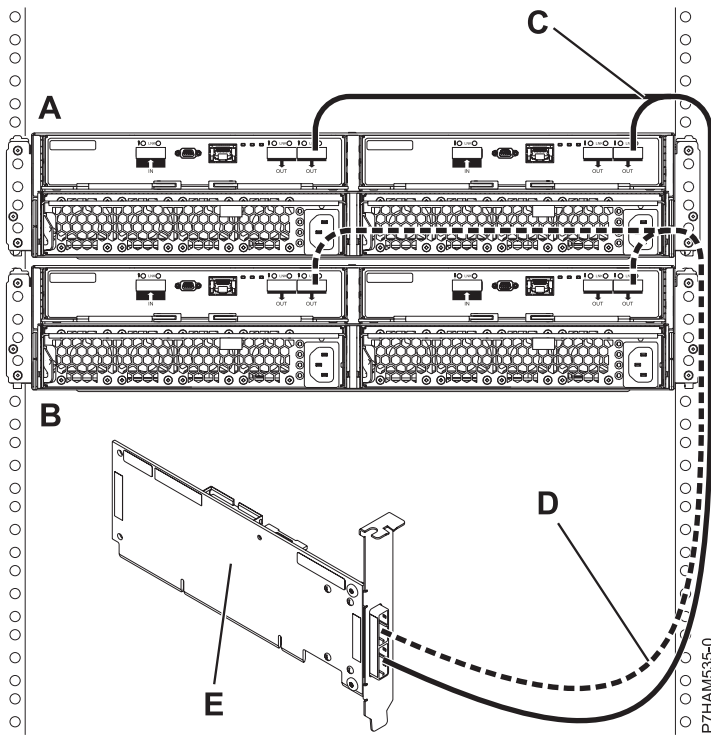

Figure 37. Mode 1 connection of two 5887 disk drive enclosures by using YO cables to a single SAS adapter
14. Perform the mode 1 connection of two enclosures (A and B) by using YO cables (C and D) to a single SAS adapter (E). See Figure 37 on page 37.